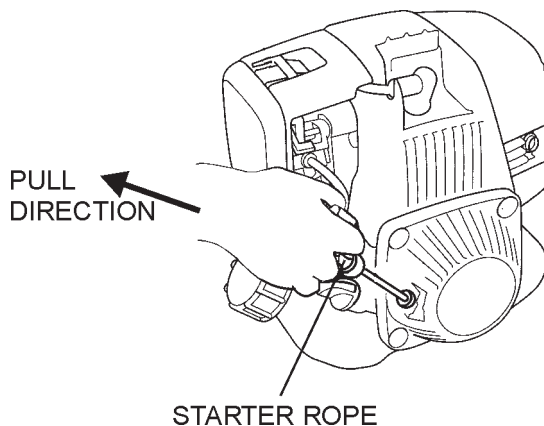

Figure 13. Engine Starter Rope
4. Pull the starter rope (Figure 13) lightly until you feel resistance, the pull briskly. Return the starter rope gently.